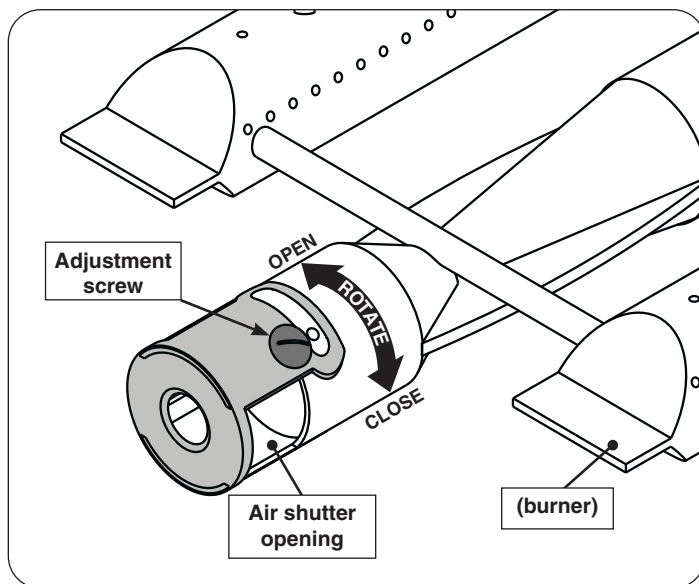

Fig. 31-2 Main burner air shutter adjustment detail
1. To adjust the air shutter, loosen the adjustment screw with a flathead screwdriver. Then rotate the shutter to open or close it. See Fig. 31-2 for details.